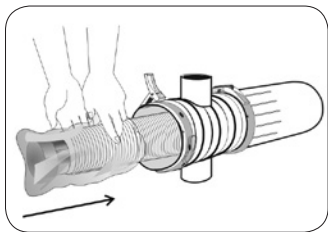

Figure 5
- Remove the discs. For convenience, we recommend using a plastic bag (Figures 5 and 6).